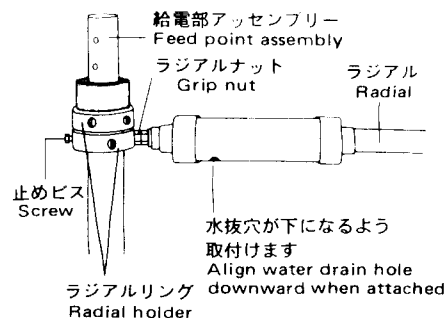

Fig. 2
- 5 Screw radial trap assemblies with radial elements to radial holders with hands. Then align water drain holes of radial trap downward and fasten them with grip nuts as shown in Fig. 2. To concentrate radials on one direction, place 3.5 Mhz and 7 Mhz radials at both ends and others on center.